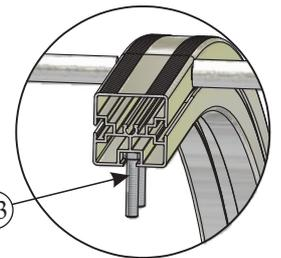
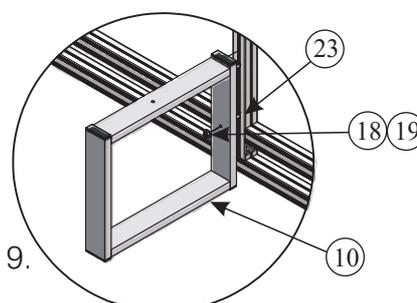

Figure 8.
Figure 9.
5.) The shelter now needs to be tilted into the upright position (Figure 8) and placed into the sockets. The safest way to do this is to have one person support each sideframe whilst another supports the bent supports. Now the main structure is assembled the seat support frames (10) need to be fixed to the bent supports (3). This is done by sliding 2 x M8*40mm bolts (23) into the bolt track of the bent supports and fixing the frames to the supports. Line up the bolts with the holes in the support frame then fit BOL715 (19) and BOL402 (18) (Figure 9). Put these on finger tight at first until the seats are positioned correctly as this will allow some movement needed to fix the seats.